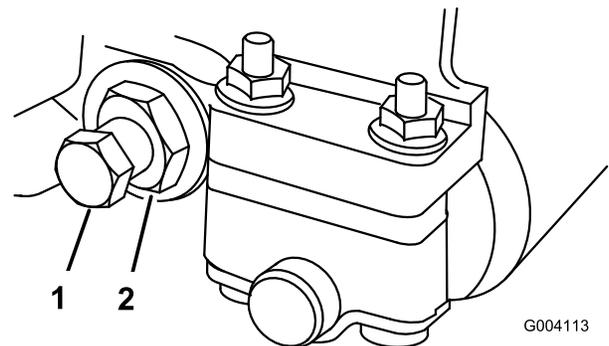

Figure 66
2. Back out the spring tension nut, until the washer is no longer tensioned against the bedbar (Figure 66).
3. On each side of the machine, loosen the jam nut securing the bedbar bolt (Figure 66).